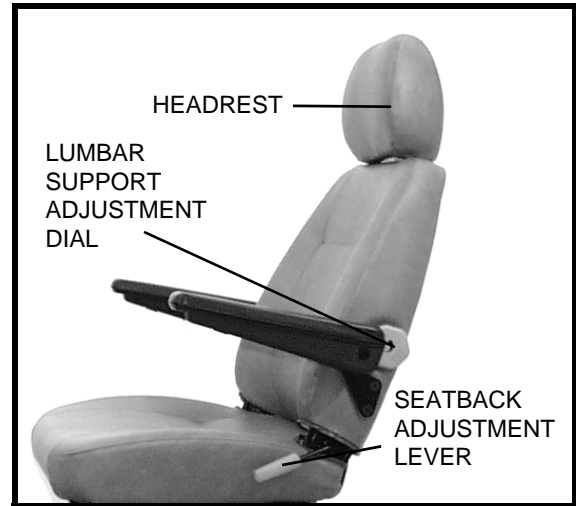

Figure 12. Seatback and Headrest Adjustments
1. Pull up on the headrest to raise its position. See figure 12.
To adjust your scooter's reclining seat, perform these steps (see figure 12):
The lumbar support is inside the lower part of the seatback. Turn the lumbar support adjustment dial anticlockwise to move the support into a comfortable position. See figure 12.
NOTE: *If your scooter is not equipped with a reclining high-back seat, as shown in figure 12, you will be able to adjust the height and width of the armrest by following the directions below.*